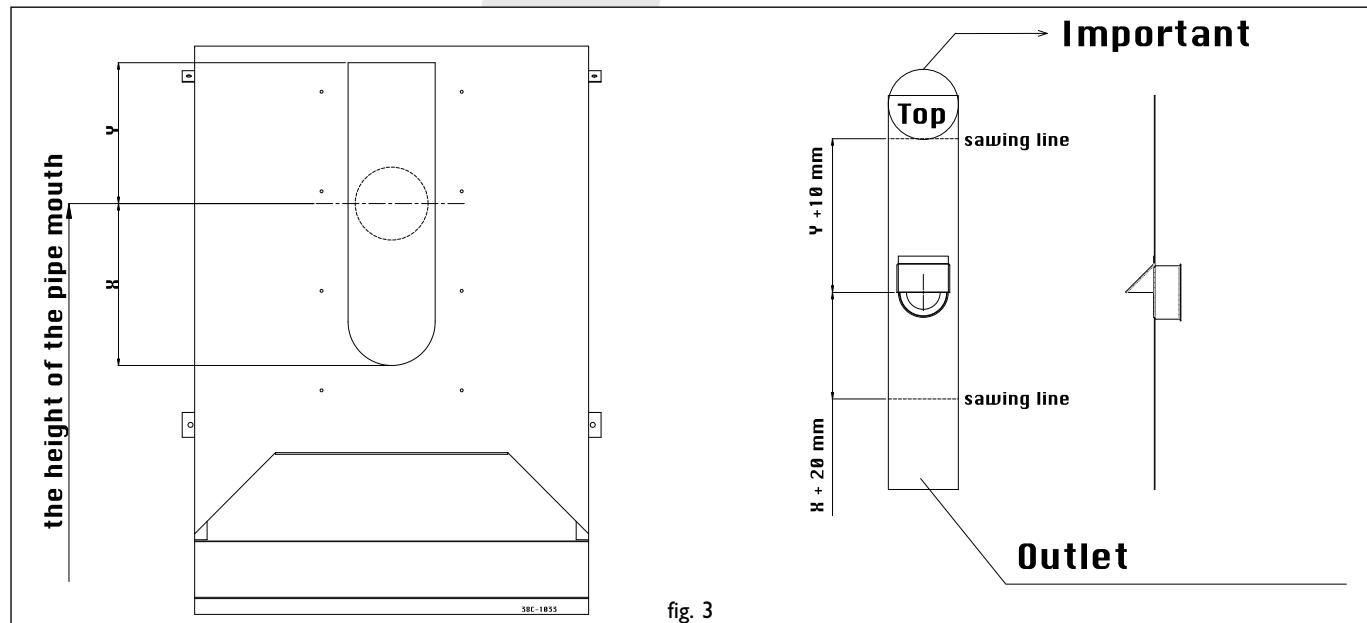

fig. 3
- Saw the plate for the outlet to the required length, as shown in fig 3.